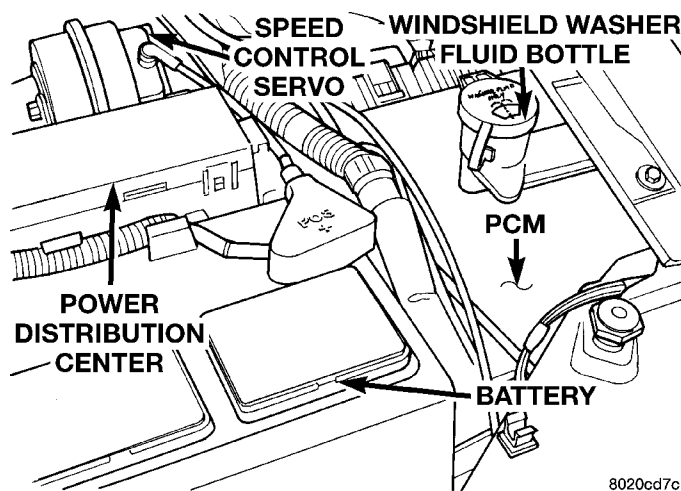

Fig. 9 Powertrain Control Module Location
(1) Unplug 2 40-way connectors from the Powertrain Control Module (PCM), located (Fig. 9).